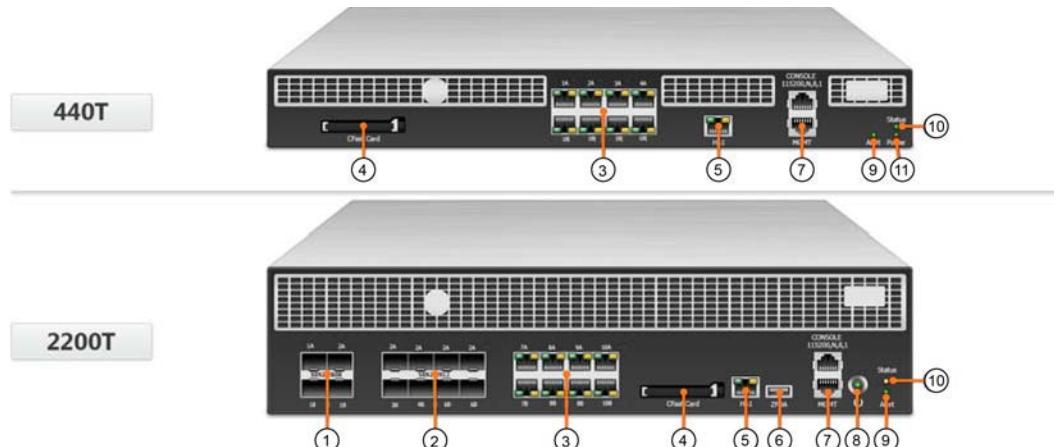

Figure 1 TippingPoint Threat Protection System security devices – front panel
- Prior to booting up for the first time, insert the card into its slot (4 in Figure 1).
- Connect one end of the Category 5 Ethernet cable to the Management port (the bottom port of 7 in Figure 1) on the front panel.